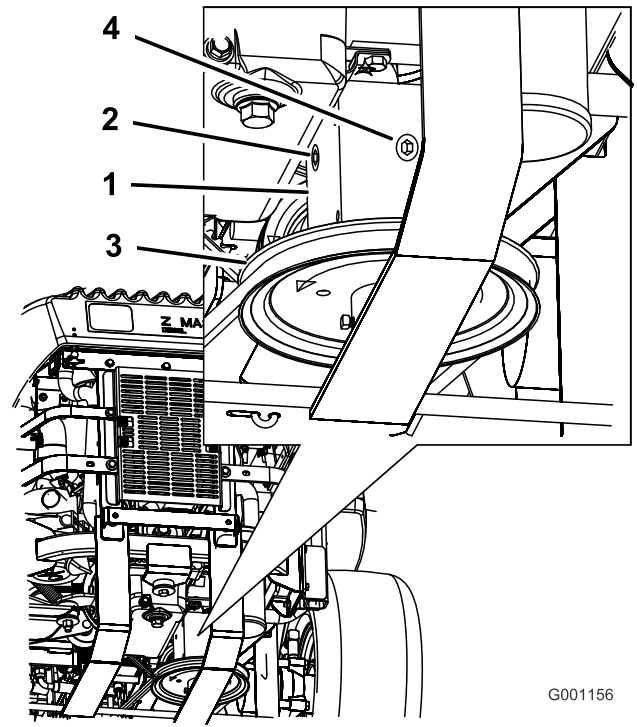

Figure 75
3. Remove the side or rear plug on the gearbox (Figure 75).